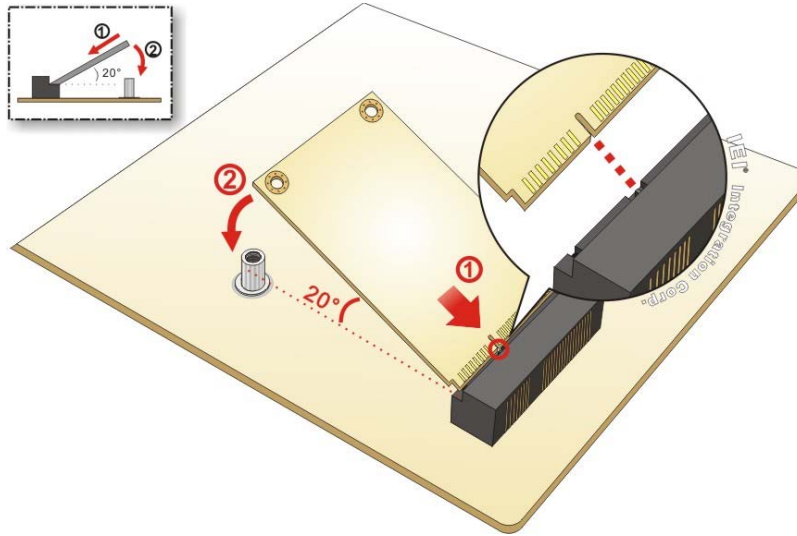

Figure 4-12: Inserting the Full-size PCIe Mini Card into the Slot at an Angle
Step 3: Insert into the socket at an angle. Line up the notch on the card with the notch on the slot. Slide the PCIe Mini card into the socket at an angle of about 20° (Figure 4-12).